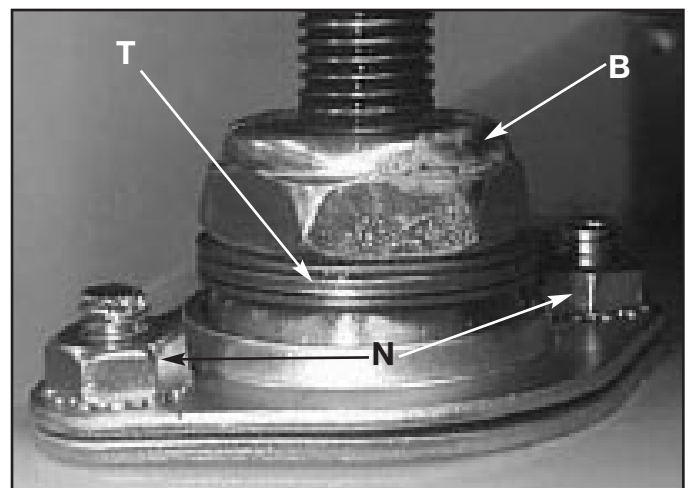

Fig. 41
1. At the base of three of the elevating screws there is a 3/4" lock nut (B) Fig. 41. Under this nut is a thrust washer, thrust bearing, and another thrust washer. [See (T) Fig. 41]. **Note:** The front left elevating screw uses a jam nut and it should be tight.
3. With a 7/16" open end wrench loosen (do not remove) the four nuts (N) Fig. 41 bolting the sheet metal flanges around the two elevating screws on the open end of the unit.
4. Oil thrust bearings on feed table screws [See (T) Fig. 41.]